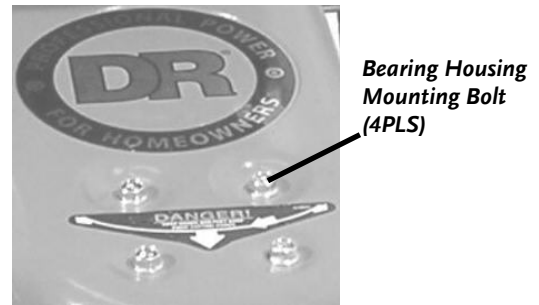

Figure 30
5. Using a 1/2" Wrench, remove the four (4) Mounting Bolts that retain the Bearing Housing from topside of the Trimmer Housing (*Figure 30*).